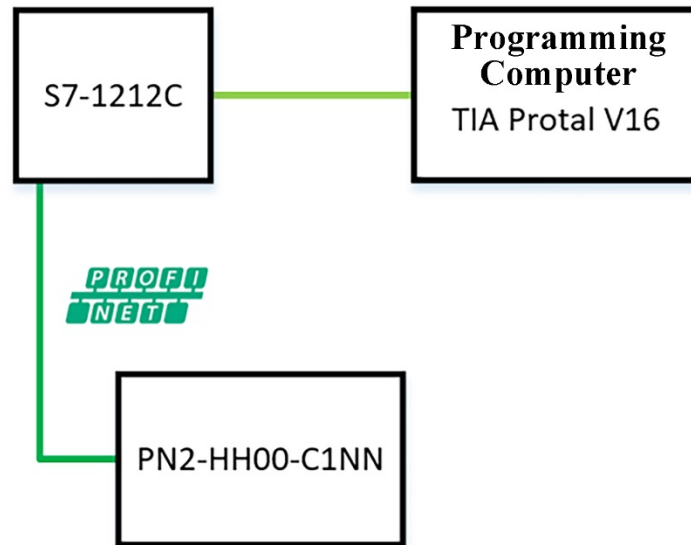

Fig. 5-8-1 Communication Link Diagram
1. See Fig. 5-8-1 for the communication link diagram.